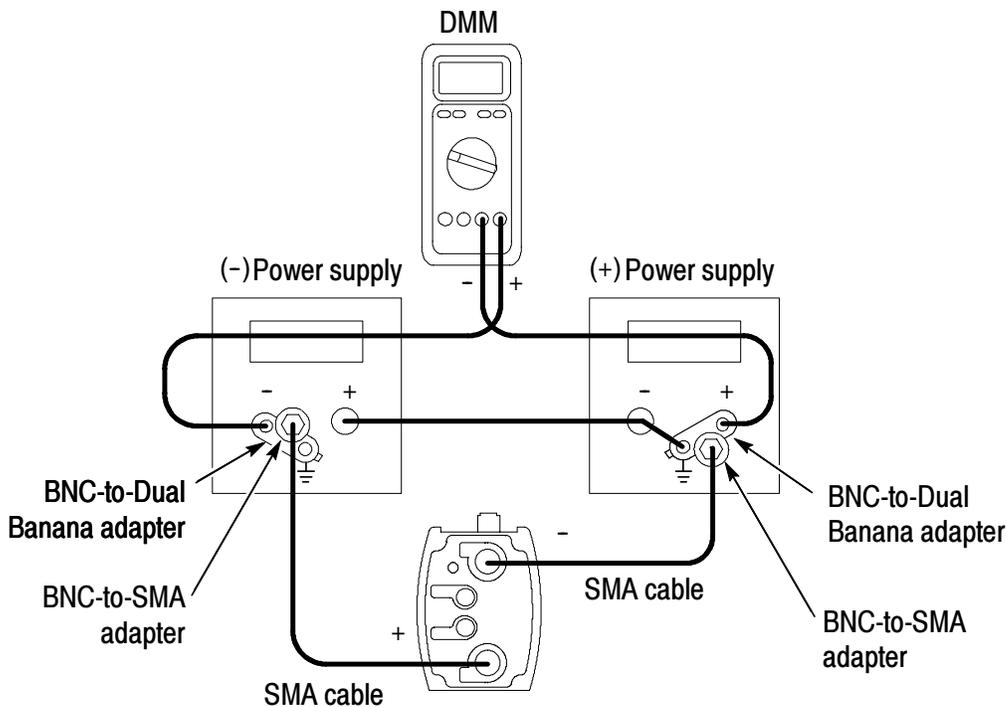

Figure 41: Reverse the power supply polarity on the probe inputs
6. Connect the BNC-to-dual banana plug adapters into the opposite power supplies to reverse the voltage polarity to the probe inputs. See Figure 41.